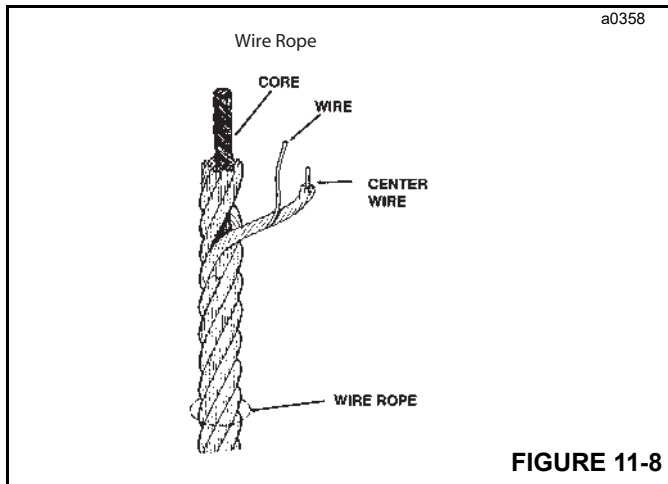

FIGURE 11-8
Every wire rope has three basic components (Figure 11-8): (1) The wires which form the strands and collectively provide rope strength; (2) the strands, which are laid helical around the core, and (3) the core, which forms a foundation for the strands. The core used in the crane wire rope is an Independent Wire Rope Core (IWRC), which is actually a smaller rope, or a strand similar to the outer strands of the rope. The IWRC core adds about 7.5% to the nominal strength of the wire rope.